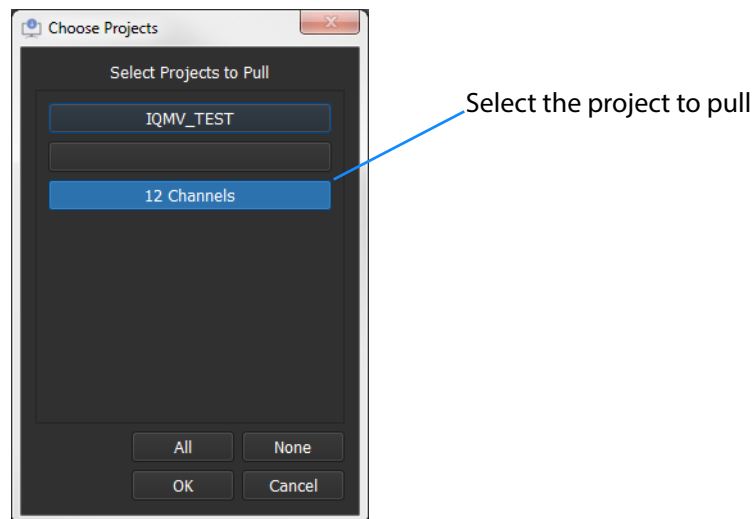

Fig. 4-92: Choose Projects Dialog
- 4 Select the project in the **Choose Projects** dialog (see Figure 4-92) and click **OK**.